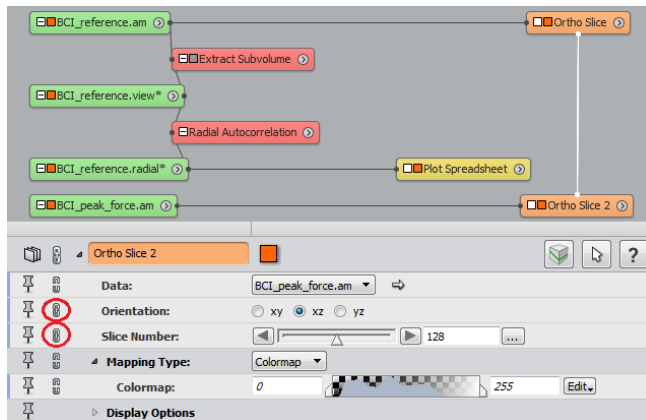

Figure 19.5: Connections between Ortho Slices
- Link the Ortho Slices attached to *BCI_reference* and *BCI_peak_force* using the Connection Editor (drag the *Slice number* port and the *Orientation* port of one Ortho Slice to the other on the Project View) (see Figure 19.5).